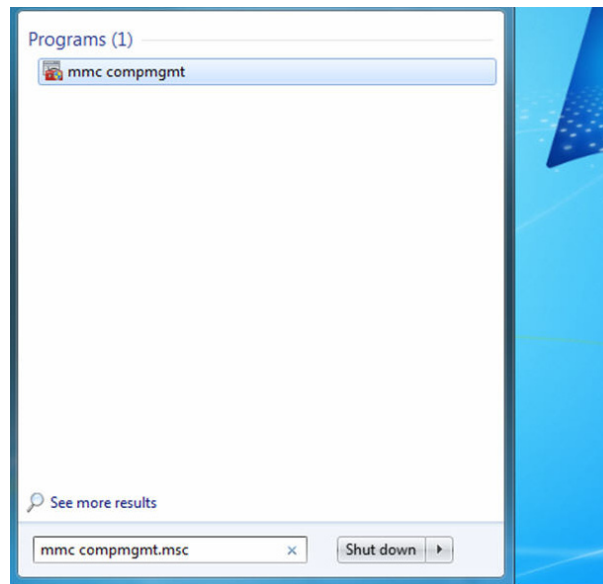

Figure 13. Windows 2008 R2 and Windows 7 Search Box
1. Select the Start button. See Figure 13 on page 44.